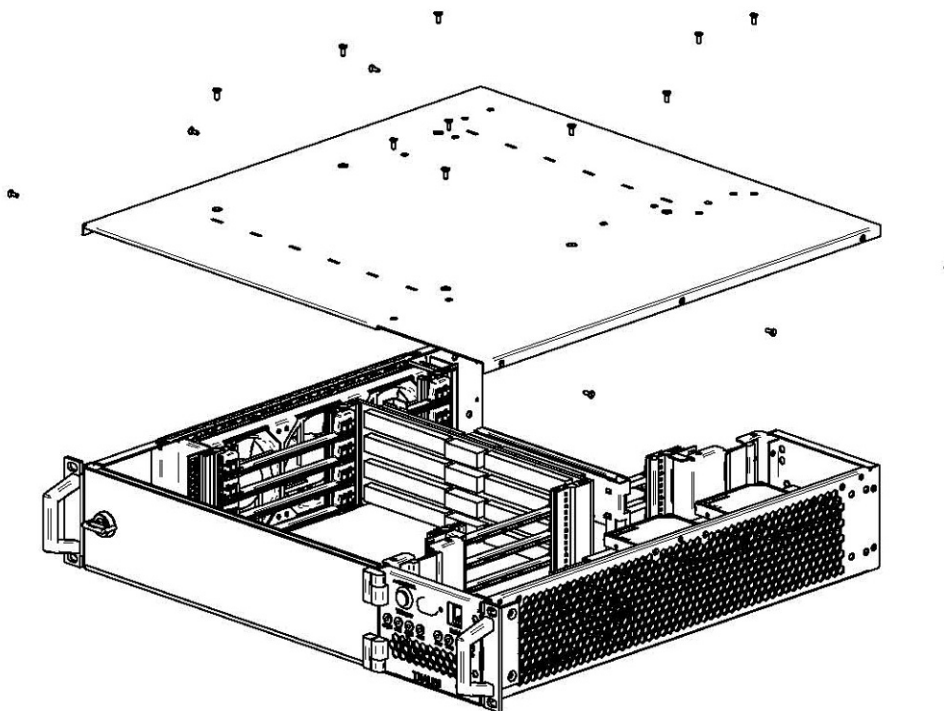

Figure 11: Access to the Internal Peripherals (1/2)
2. Remove the cover of the rack. 16 screws lock the cover of the rack, they can be unscrewed using a Phillips screwdriver. Refer to Figure 11 page 19.
4. Install the cover of the rack. Fix it to the rack frame with the screws removed at stage 2. Refer to Figure 11 page 19.